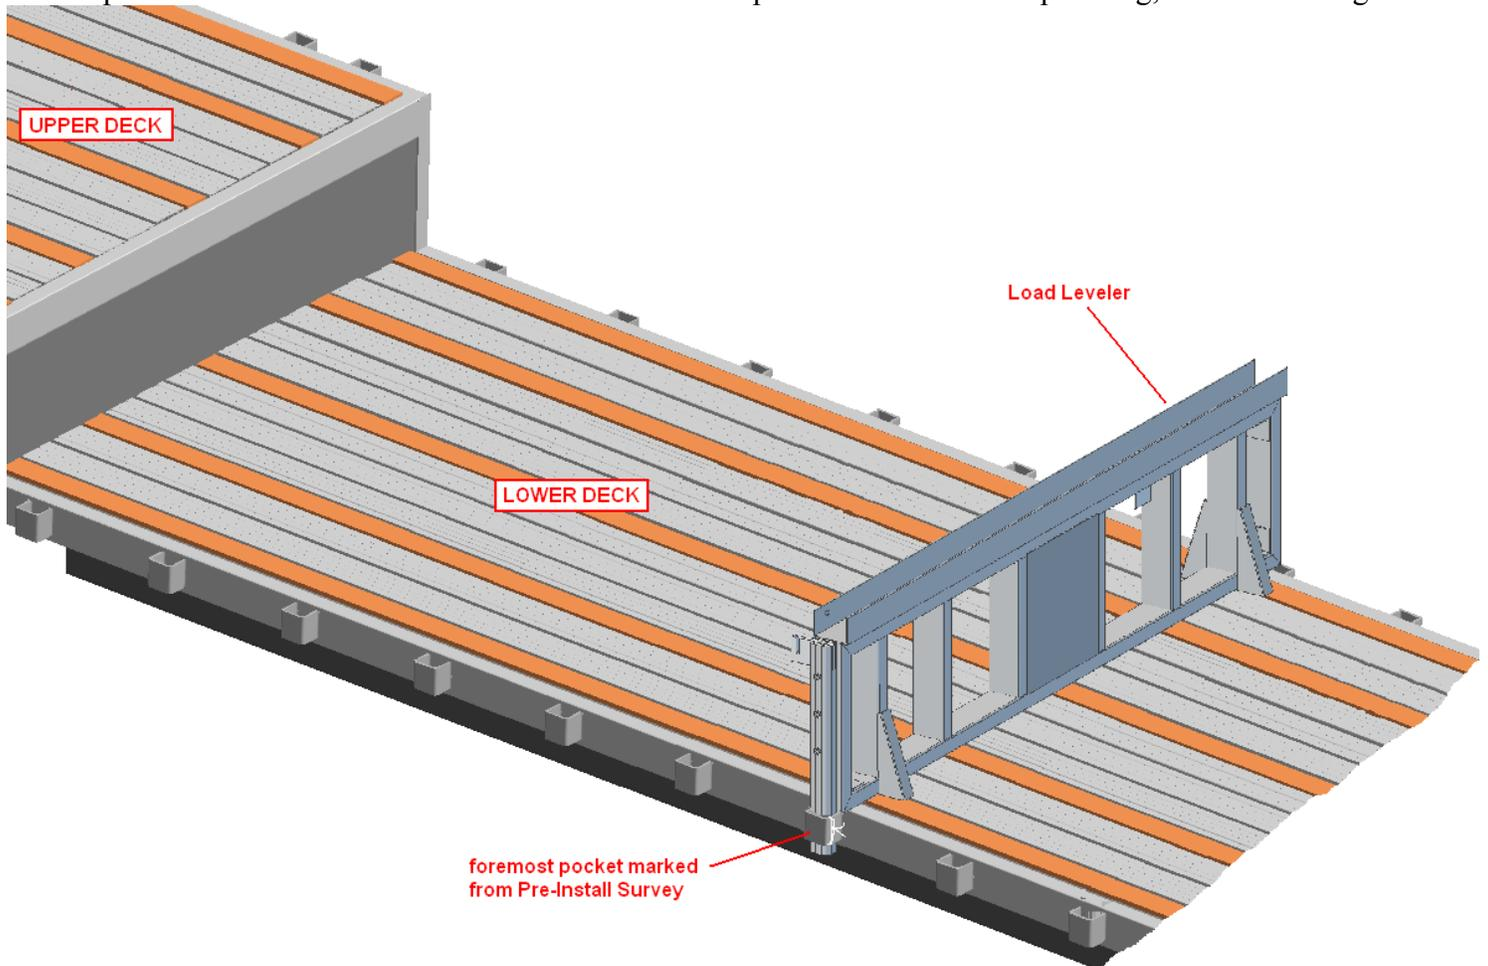

Figure 4: Placing a Load Leveler's welded-side Stake Post into the foremost lower deck side rail pocket marked with rope/string
2) While standing on the lower deck platform of your Trailer, take one Load Leveler unit and, making sure that the end of the unit with the **welded and bolted** Stake Post is oriented to the driver's side of the Trailer, place the Post down into the foremost driver's side pocket marked with rope/string, as shown in Figure 4: